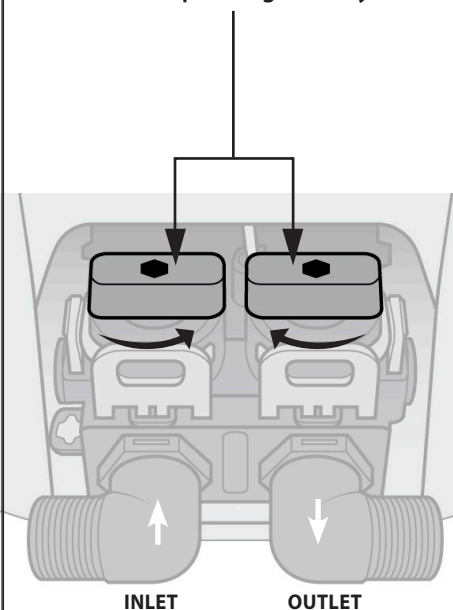

FIG. 3A
- **Note:** To change the connection fitting, simply remove the locking clips by hand (FIG. 3A) and pull the fitting out (FIG. 3B). Lubricate the O-ring on the new fitting and insert fitting firmly into the unit. Reinstall locking clip.